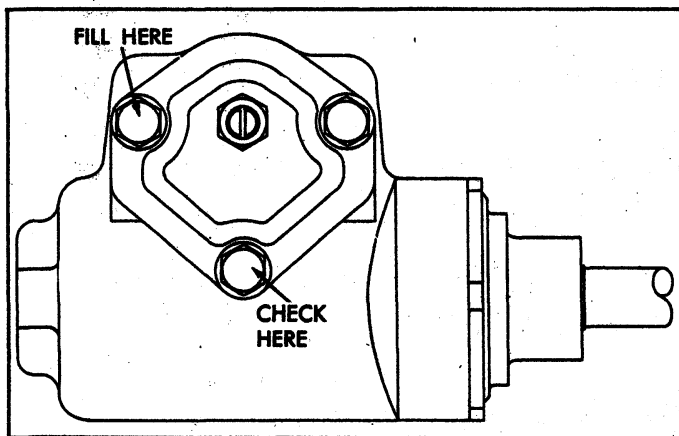

Fig. 1—Cover Attaching Bolts—Chevy II Shown
1. Remove lower and outboard cover retaining screws (fig. 1).